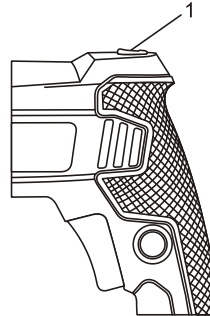

Fig. 3
To turn the LED work light ON, press the LED work light button (1) once (Fig. 3). To turn the LED work light OFF, press the LED work light button a second time.